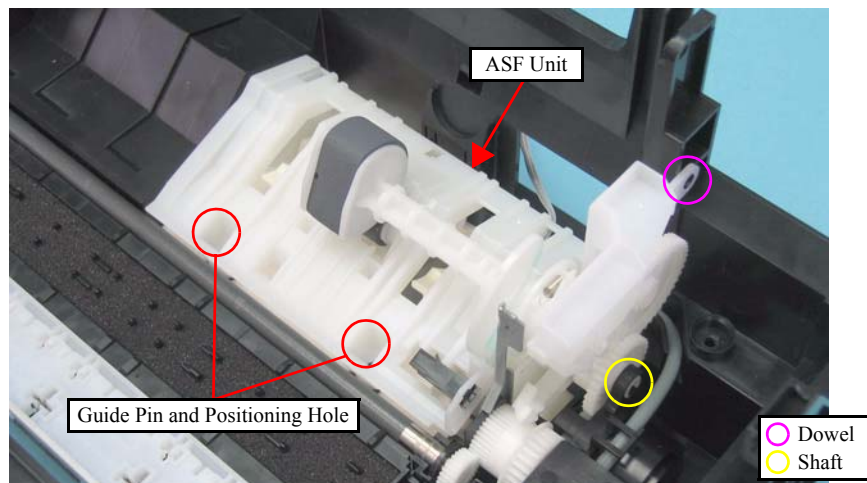

Figure 4-90. Removing the ASF Unit (2)
- When installing the ASF Unit, be sure to align the guide pins (x2) of the Base Frame with the positioning holes (x2) of the ASF Unit as shown in Figure 4-90.